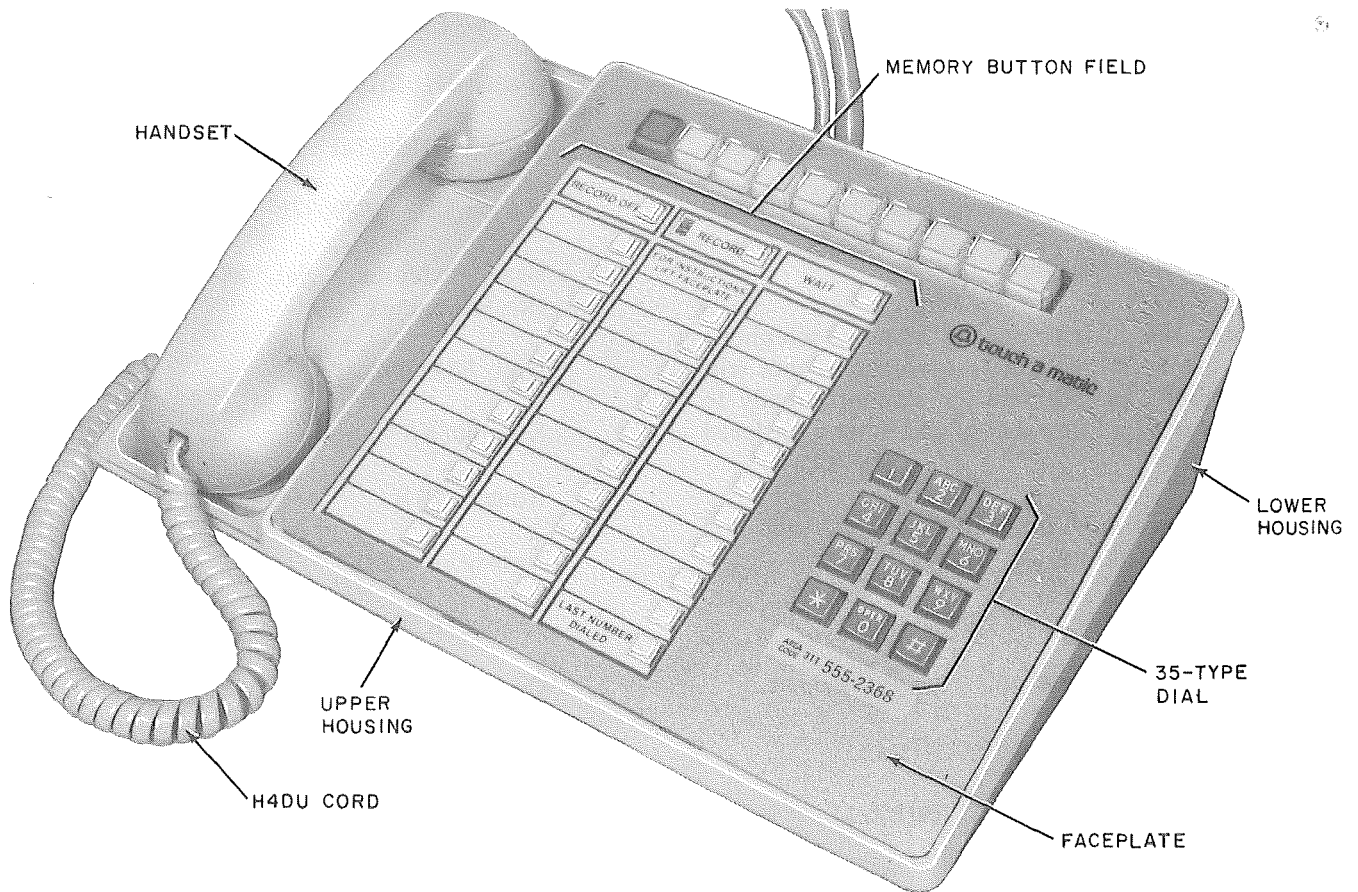

Fig. 1—F-59796, F-59797, F-59798, F-59799, F-60208, F-60209, F-60210, and F-60211 Telephone Set
1.01 This section contains identification, installation, connection, operation, and maintenance information for the F-59796 through F-59799 (MD) or F-60208 through F-60211 telephone sets (TOUCH-A-MATIC® service), Fig. 1.
2.01 These telephone sets (Fig. 1) provide the standard features of a 10 button key telephone set plus (manual) TOUCH-TONE® dialing, automatic dialing of 31 frequently called numbers, and a LAST NUMBER DIALED scratch pad memory.